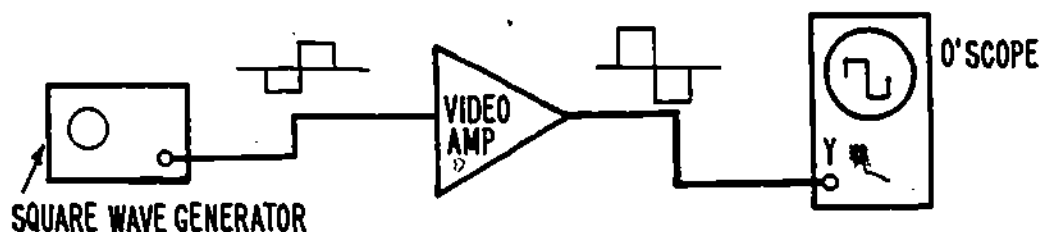

Figure 27
24. The second method for measuring the frequency response of a video amplifier circuit uses the square wave generator. This test method is less accurate than the one previously described, but is effective in troubleshooting. Figure 27 shows an equipment set-up for measuring frequency response using the square wave generator.
In Figure 27, the displays of the oscilloscope indicates that the test video amplifier